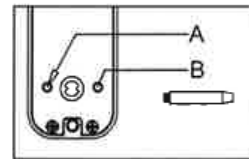

Figure 3
- Screw the Bolt Guide in to Hole A for a door opening to the right (clockwise opening) (Figure 3)
- Screw the Bolt Guide in to Hole B for a door opening to the left (anti-clockwise opening) (Figure 3)